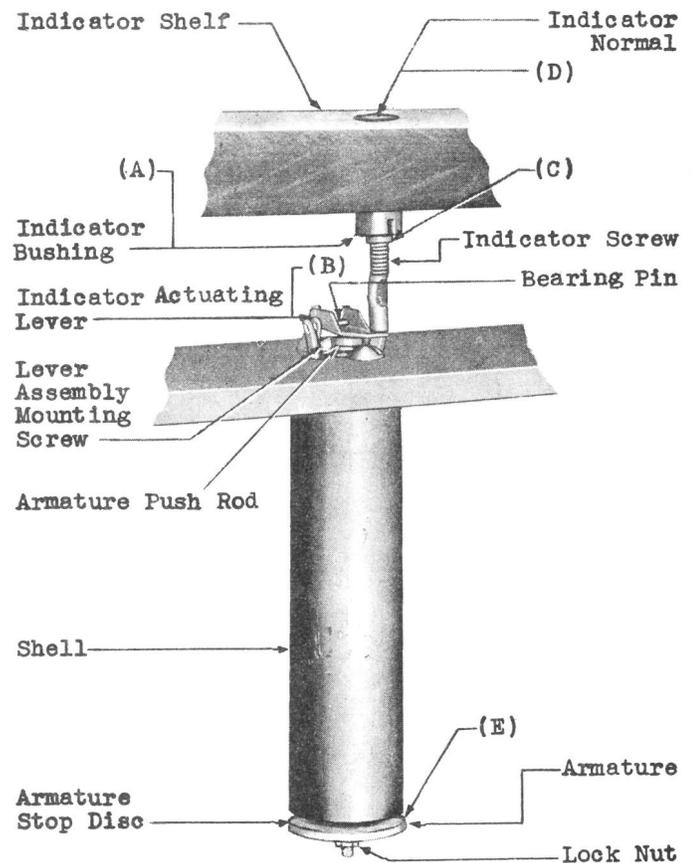

Fig. 1 - General View of Signal and Indicator in Normal Position
2.02 Freedom of Indicator Movement - Fig. 1 (A) - The indicator shall move freely in the indicator bushing. Gauge by feel.
2.03 Freedom of Movement of Indicator Actuating Lever - Fig. 1 (B) - The indicator actuating lever shall move freely on its bear-
\*2.04 Tightness of Indicator Parts - Fig. 1 (C) - The indicator screw shall be sufficiently tight in the indicator to hold any adjusted position. Gauge by feel.
(a) Fig. 1 (D) With the associated signal in the normal position, and with the indicator shelf screwed tightly in place the top of the indicator shall be approximately ( $\pm .005$ " ) flush with the face of the indicator shelf. Gauge by eye and by feel.
\*2.08 Armature Travel - Fig. 1 (E) - The armature travel shall be Minimum .038", Maximum .042". Use the No. 66D gauge.